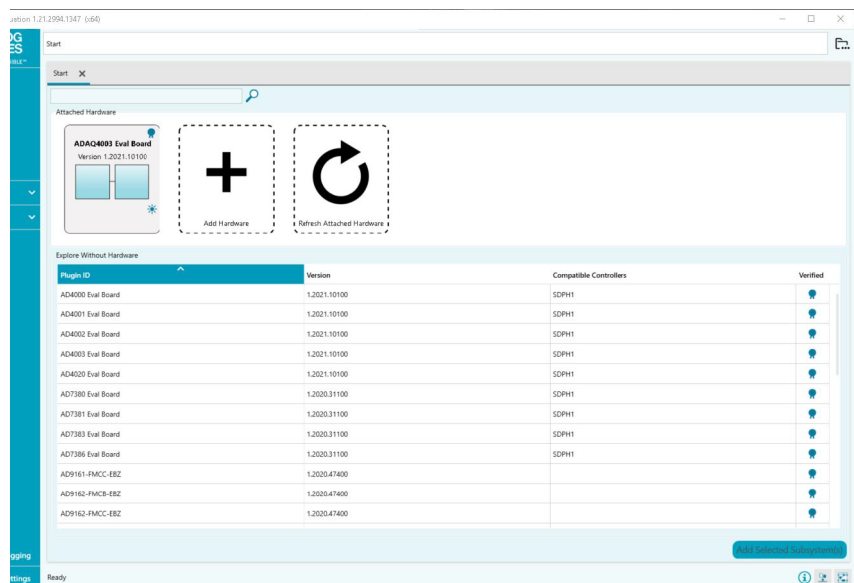

Figure 16. ACE Software Main Window
1. From the **Start** menu of the PC, click **All Programs > Analog Devices > ACE > ACE.exe** to open the ACE software main window shown in Figure 16.
3. Double click the **ADAQ4001 Eval Board** or **ADAQ4003 Eval Board** icon in the ACE software main window (see Figure 16) to open the board view window shown in Figure 17.